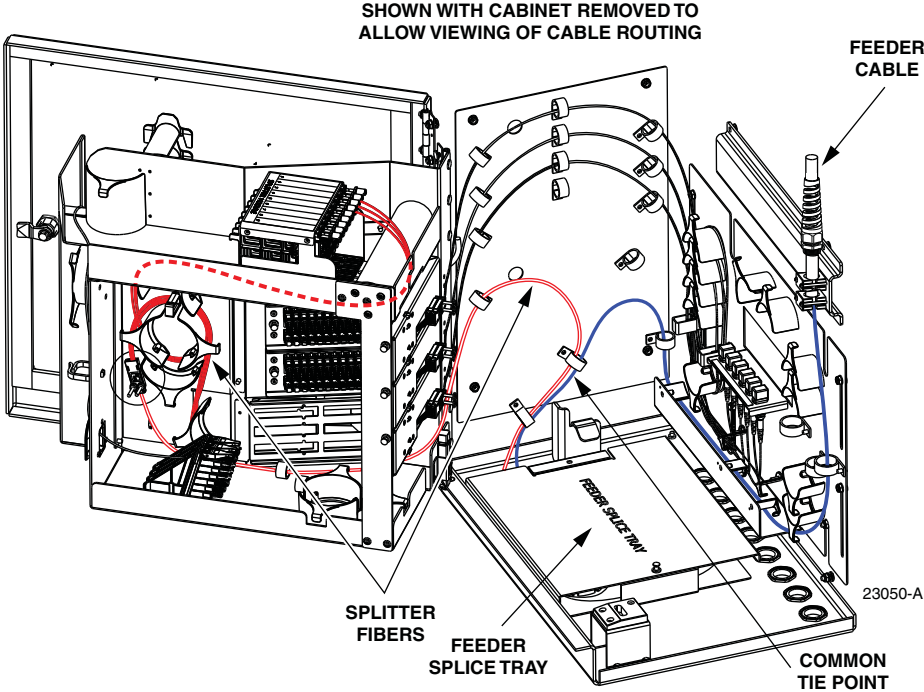

Figure 16. Feeder Splice Tray and Feeder/Splitter Fiber Routing
1. Locate the feeder splice tray mounted on the bottom of the cabinet, as shown in Figure 16, and locate the splitter input fibers which are routed to the feeder splice tray.